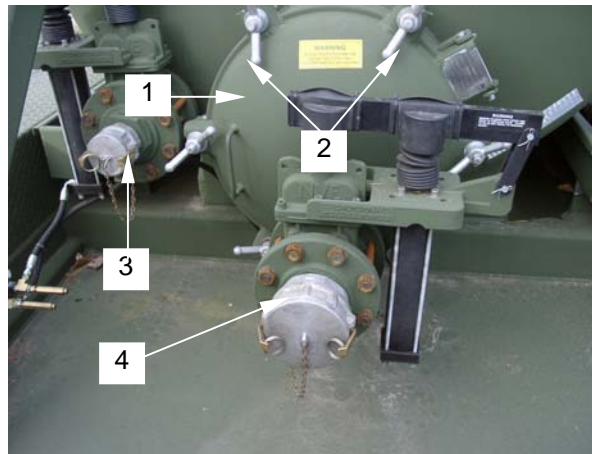

Figure 3. Closing Manway
10. Close manway (**figure 3, item 1**) by placing swing bolt assemblies (**figure 3, item 2**) onto the cover and tighten them in a star pattern.
11. Close intake valve (**figure 3, item 3**) and drain valve (**figure 3, item 4**).